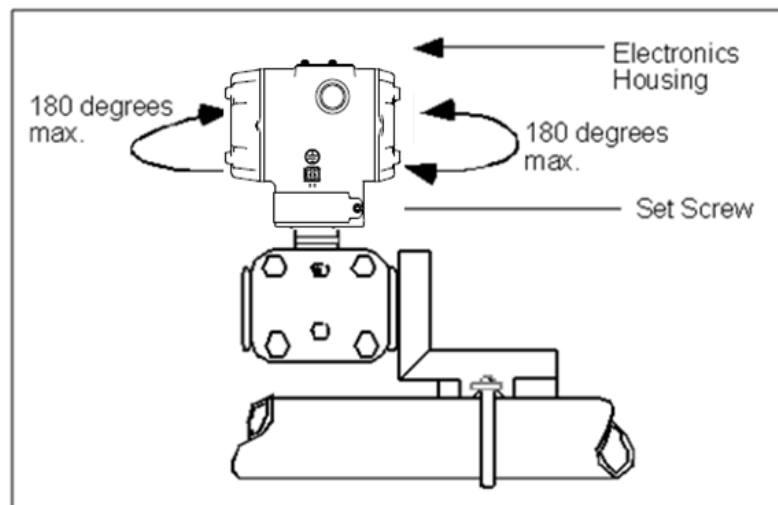

Figure 8 – ST 700 Standard Transmitter - Rotating the Electronics Housing
Once the transmitter is mounted, the electronics housing can be rotated to the desired position. See Figure 8 for details.
3. Loosen the set screw on the outside neck of the transmitter one (1) full turn.
4. Rotate the electronics housing a maximum of 180° left or right from the center to the position you require, and tighten the set screw using a 4mm metric socket head wrench. See the following example and Figure 8.